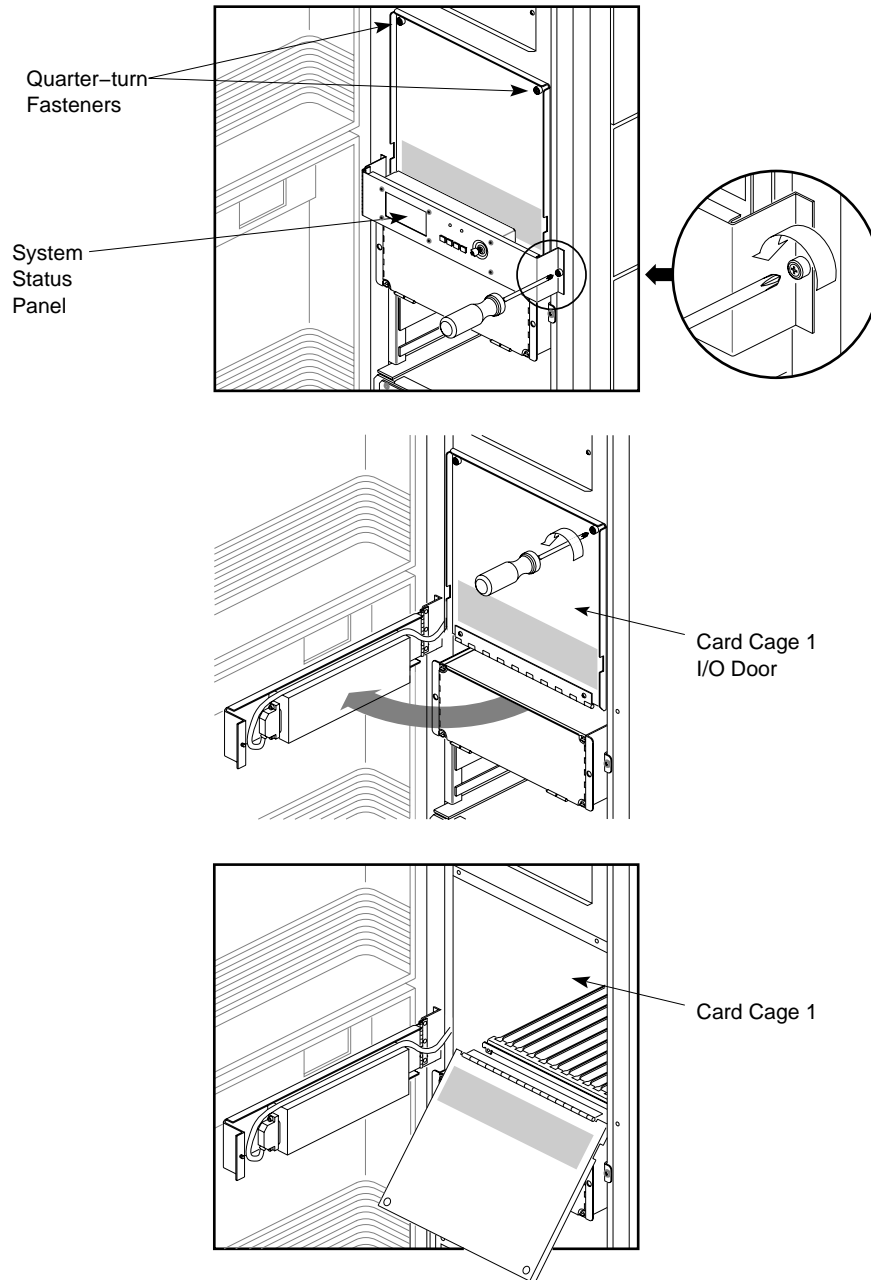

Figure 3-2 Gaining Access to Cardcage 1
2. Release the quarter-turn captive screw, on the right side of the system status panel, and swing the panel out of the way (see Figure 3-2).